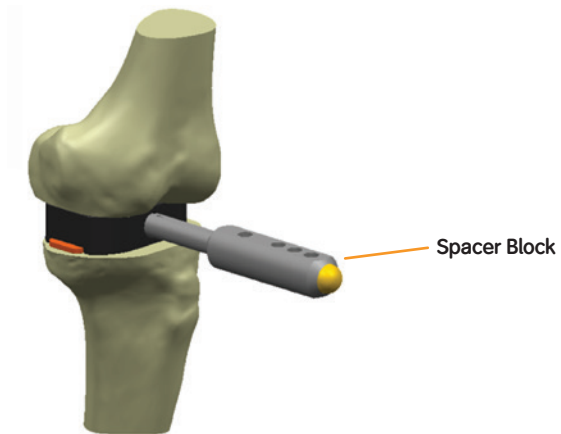

Figure 39
- 2 Insert the Flexion/Extension block into the extension gap. Evaluate alignment, balance, and extension space (Figure 39)